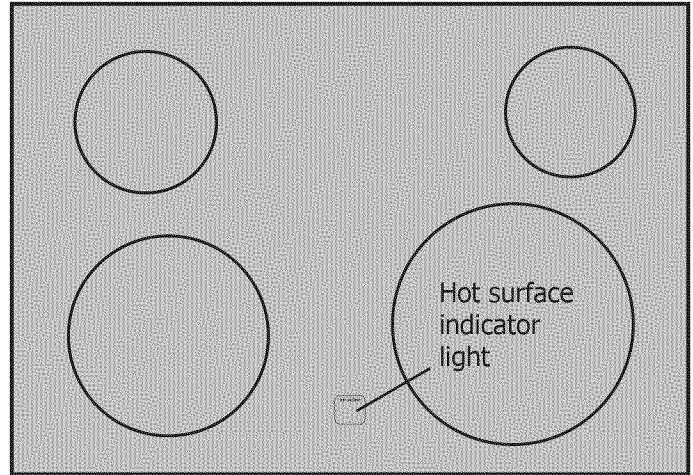
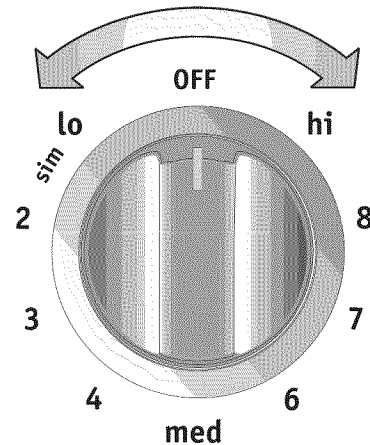

Figure 2 - Model C only
Figure 1 -Control knob shown is typical only.
The **hot surface** indicator light located on the cooktop (Figure 2) will glow when any surface cooking area heats up and will remain on until the glass cooktop has cooled to a MODERATE level.
2. Push in and turn the surface control knob in either direction to the desired setting (Figure 1).
On model A, the oven is vented **through the right rear coil element** (Figure 1) and on models B & C, the oven vent is located **through the upper front trim** and visible when the oven door is open (Figure 2). When the oven is on, warm air is released through the vent. This venting is necessary for proper air circulation in the oven and good baking results. **DO NOT** block the vent. Doing so may cause cooking failures, fire or damage to the appliance.
(Figure 1)